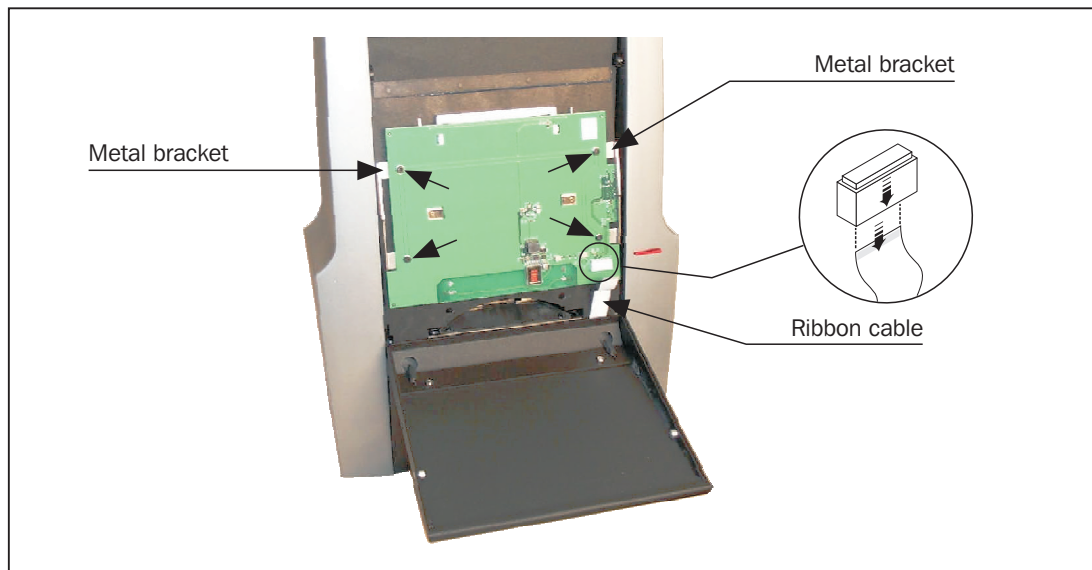

Figure 7.2: Light board with ribbon cable and screws
3. Now turn the top of the light table to upright position as shown in Figure 7.2 on the next page.
4. Disconnect the ribbon cable from the plug by pulling the plug's locking device downwards to release the cable (see Figure 7.2).